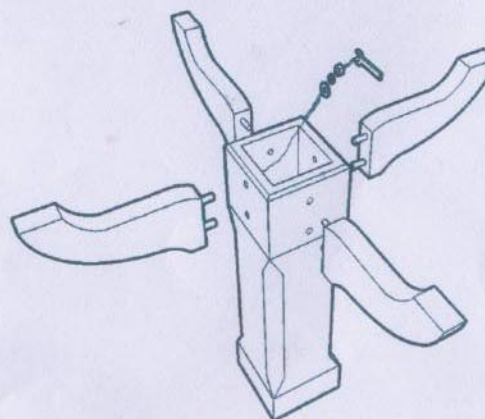

Figure 1
**Step 1.** Turn the pedestals up side down. Do not remove the plastic bolt protectors for this step.(Figure 1)
**Step 2.** Remove the plastic bolt protectors from the hanger bolts on the legs. Attach each leg to the pedestal using eight Nuts, eight Flat Washers and eight Lock Washers and tighten all nuts firmly with the wrench provided. (Figure 1)